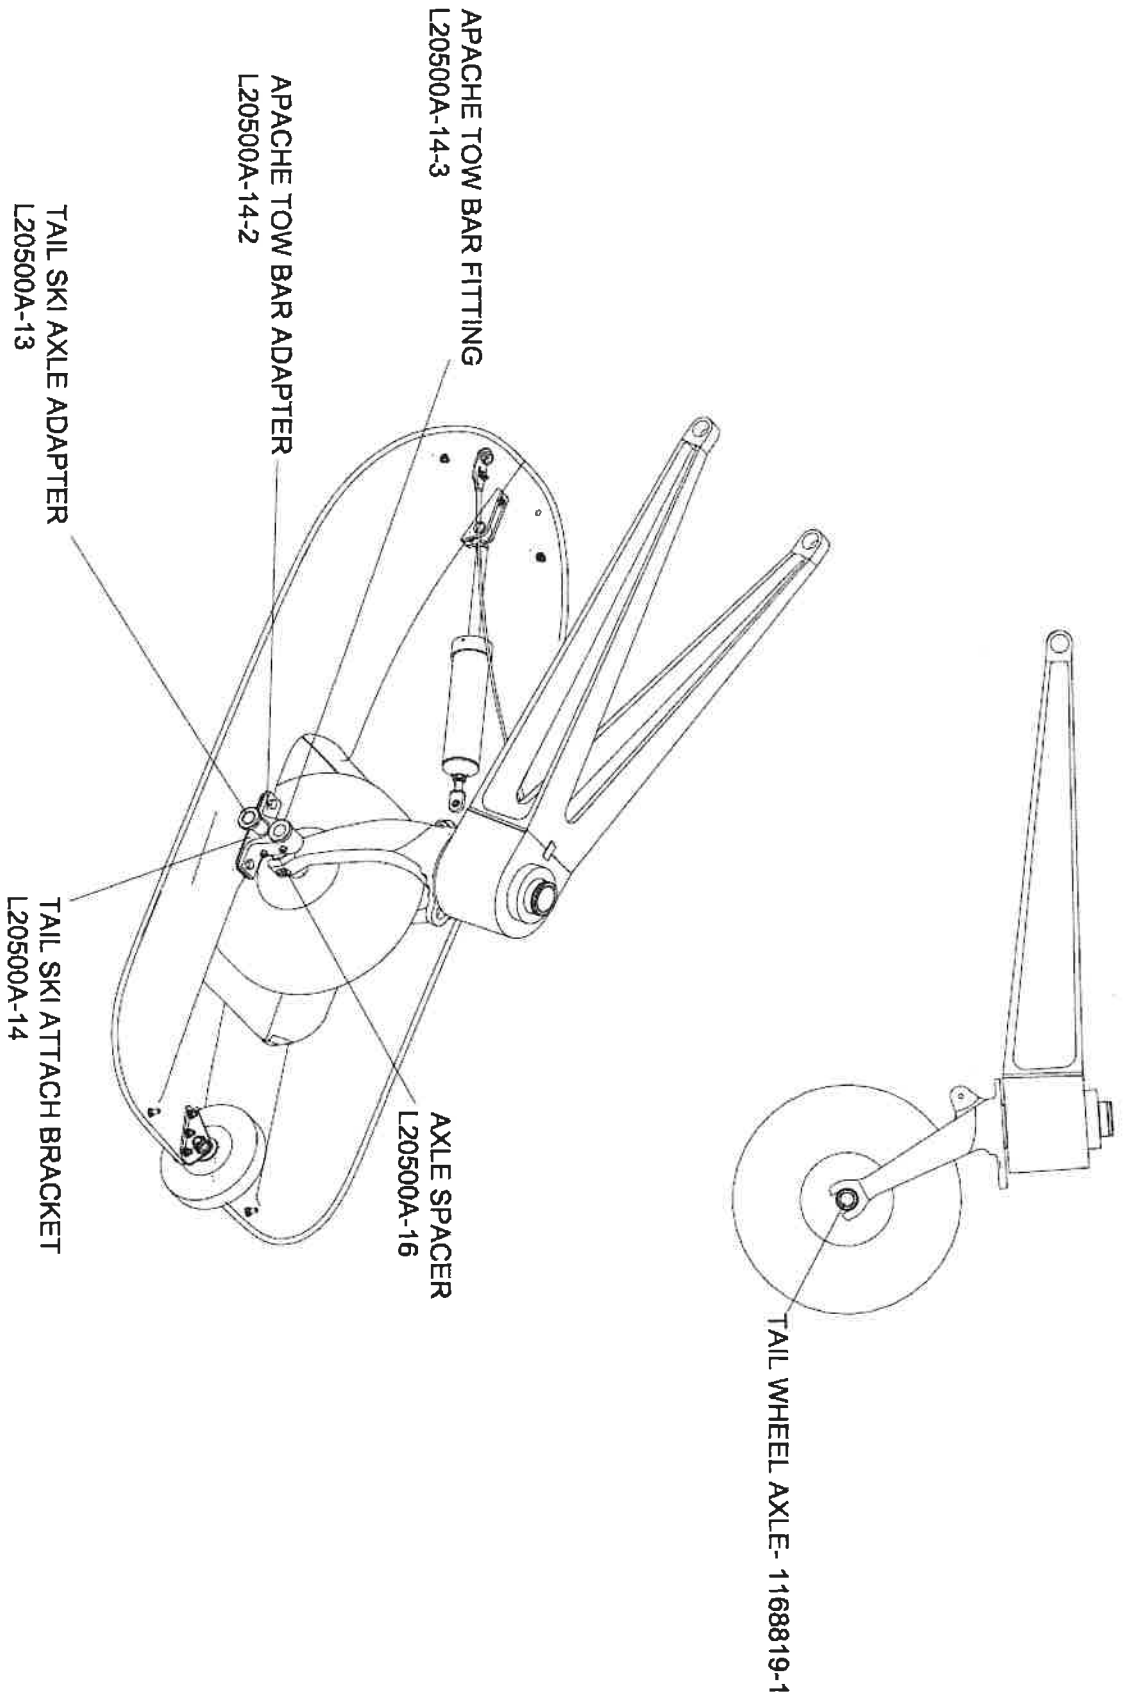

FIGURE 6.0
27. Lift rear ski so the Tail Ski Attach Brackets (L20500A-14) line up with the Tail Wheel Axle (1168819-1). *See Figure 6.0*
28. Insert Tail Ski Axle Adapter(s) (L20500A-13) through Ski Attach Bracket(s), place Axle Spacer(s) (L20500A-16) on Tail Ski Axle Adapter(s). *See Figure 6.0*